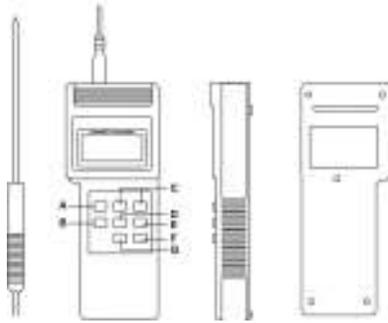

Figure 1 Traceable® Universal Thermometer/Timer
In Timer mode, this button resets the timer (see A in Figure 1).
**OFF/AUTO** button activates the Auto Off mode when pressed once and turns the unit off with a second press. In Auto Off mode, an AUTO indicator appears on the display and the unit will automatically shut off after 6 to 7 minutes if no buttons are pressed (see B in Figure 1).
**HI/HR** button allows viewing and setting the High Temperature Alarm while in Thermometer mode. While in Timer mode, it advances the Hour setting for countdown timing (see C in Figure 1).
**LO/MIN** button allows viewing and setting the Low Temperature Alarm while in Thermometer mode. While in Timer mode, it advances the Minute setting for countdown timing (see C in Figure 1).
**MEM** button alternates between the maximum, minimum, and current temperature readings with each press. MAX and MIN indicators will appear on the display (see D in figure 1).
**MODE** button switches the unit between Thermometer and Timer modes (see E in Figure 1).
**START/STOP** button starts and stops the timer while the unit is in Timer mode (see F in Figure 1).
**°C/°F** button alternates between Celsius and Fahrenheit temperature readings (see G in Figure 1).
1. **Plug steel probe into socket located on top of unit before turning unit on (see Figure 1).**